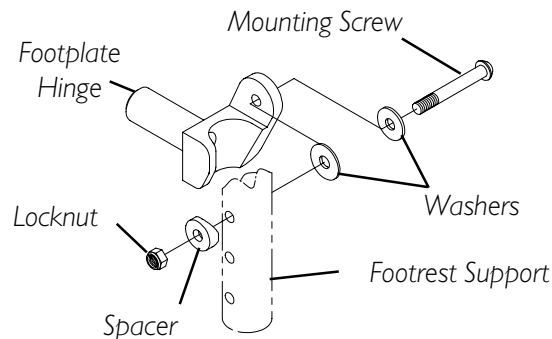

FIGURE 7 - INSTALLING ADJUSTABLE ANGLE FLIP-UP FOOTPLATE HINGE
INSTALLING ADJUSTABLE ANGLE FLIP-UP FOOTPLATE HINGE (FIGURE 7)
2. Position mounting screw, washers, spacer, and locknut on the footrest support as shown in FIGURE 7.